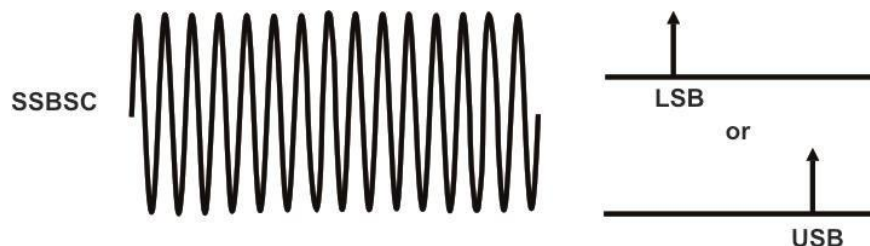

Fig 3.3
8. Connect Balance Modulator O/P TP9 to Ceramic Filter I/P TP11 and observe the wave form at the output of Ceramic Filter TP12. The filter will completely remove the upper sideband of amplitude modulated signal. And observed signal will be SSB signal shown in Fig 3.3